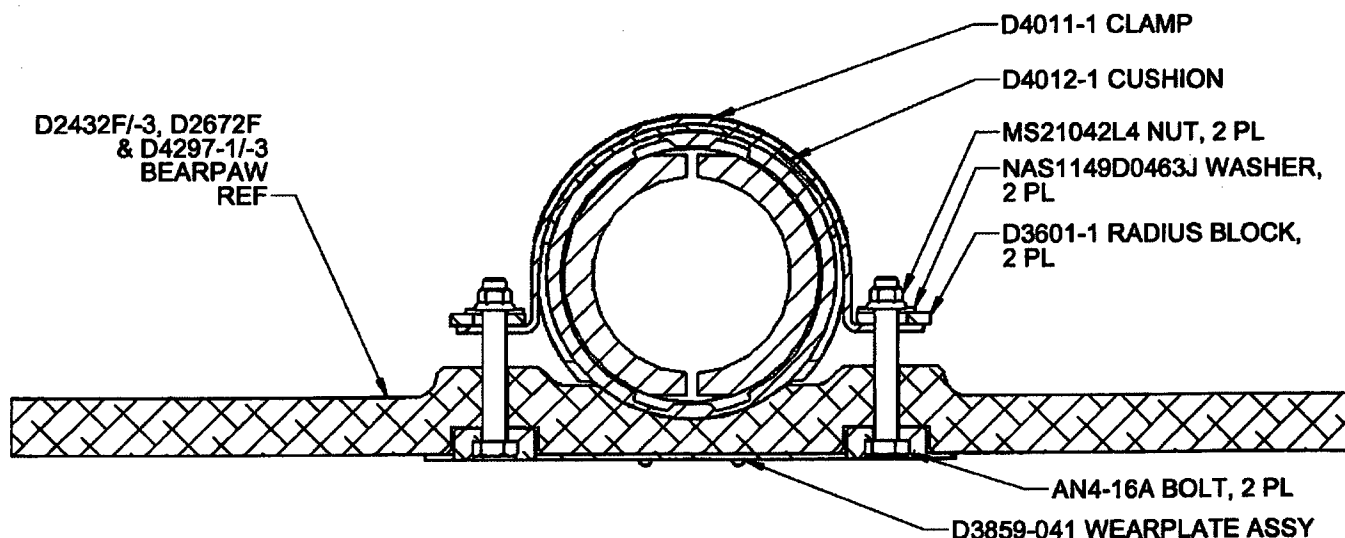

FIGURE 2: SECTION A-A CLAMPING DETAIL
- 2.5 Install the Bearpaws using the hardware as shown in Figure 2.